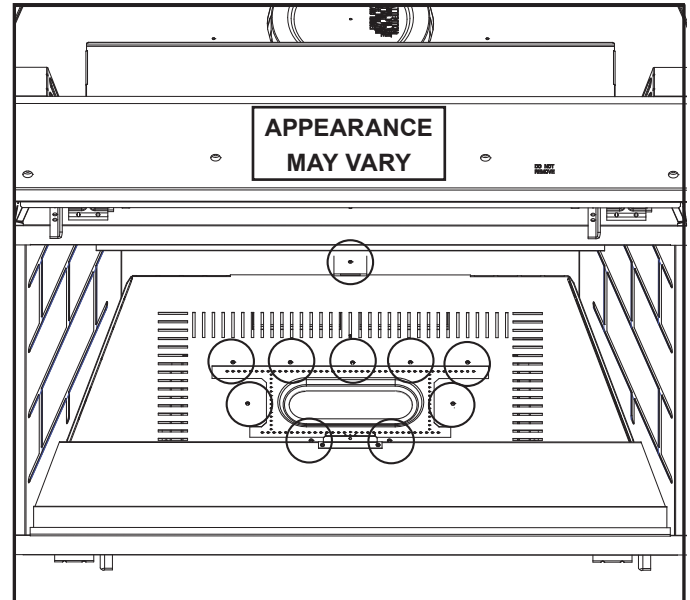

Figure 4.5 Base Pan Removal
4. Remove the base pan by removing the screws circled in Figure 4.5.